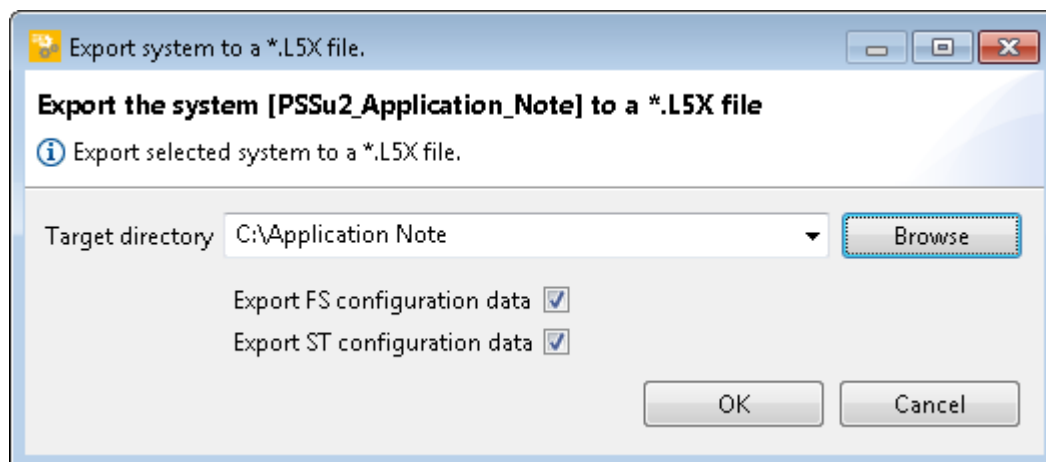

Figure 21: PASconfig – Export system configuration to .L5X file (Part 2)
- ▶ In the new subwindow, select now the previously created .L5X file (Figure 21, page 19) and press the “Open” button: